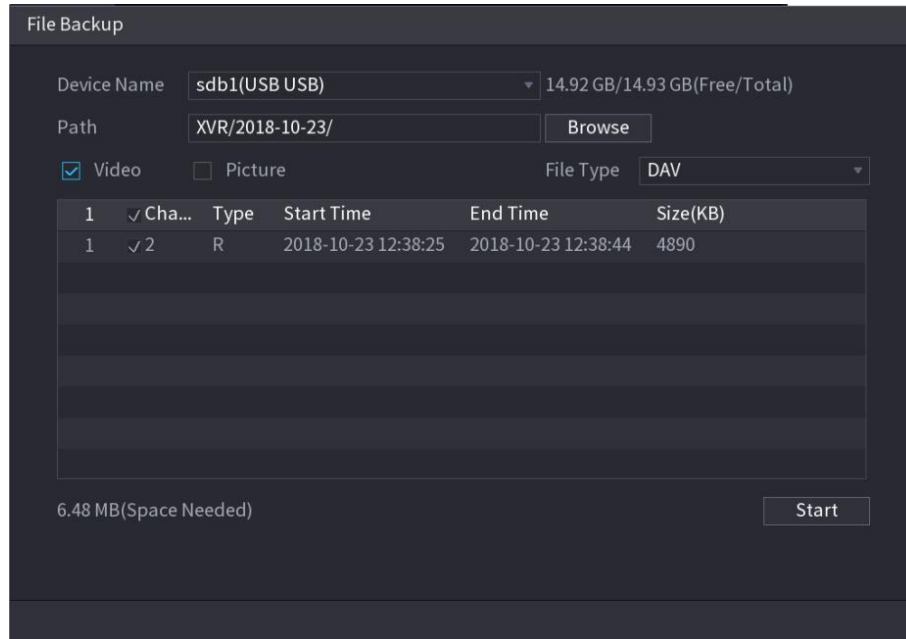

Figure 5-136
- To back up the recorded files to the external storage device, select files, click **Backup**, select the save path and file type, and then click **Start**. See Figure 5-136.